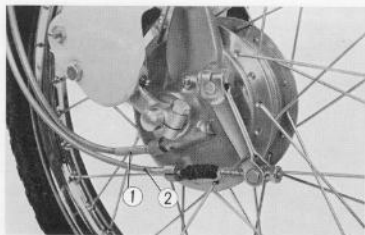

Fig. 4.10 Disconnect speed and brake cable
2. Uncouple the speedometer cable ① and disconnect the front brake cable ②. (Fig. 4.10)